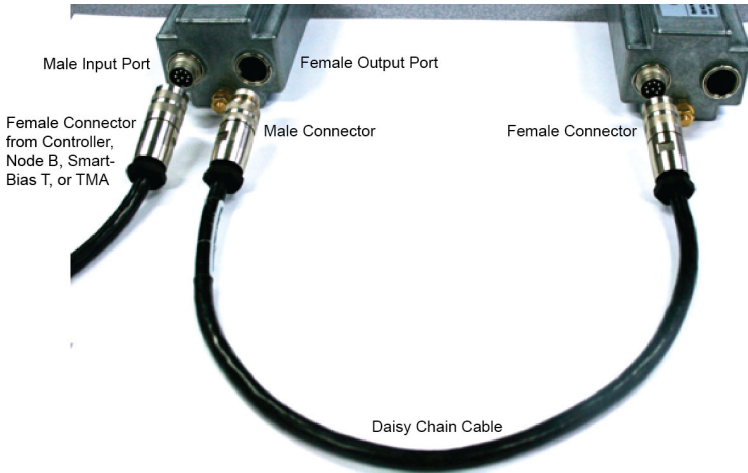

Figure 2.1 Connecting to AAS RET Units
2. Secure the FEMALE jumper cable connector to the RET unit. Secure the MALE jumper cable connector to the Smart Bias T (Modem), or TMA. See Figures 2.1 and 2.2.